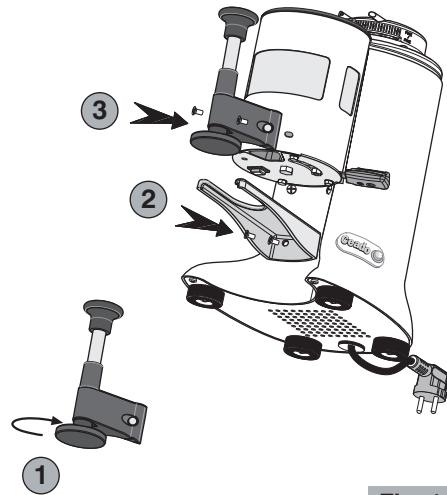

Fig. 14
- 2** Choose the suitable press diameter (53, 54,5 or 57,5 mm) for the filter-holder of your coffee machine and fix it to the rod of the telescopic press (1, Fig. 14).
- 3** Position the long support fork supplied with the telescopic press and fasten it using the same retaining screws of the short fork removed previously (2, Fig. 14).
- 4** Position the telescopic press and fasten it with the screws provided (3, Fig. 14).
| 4 | Fourche d'appui | 19 | Tasseur télescopique et sa fourche longue (option) (voir aussi Fig. 14) |